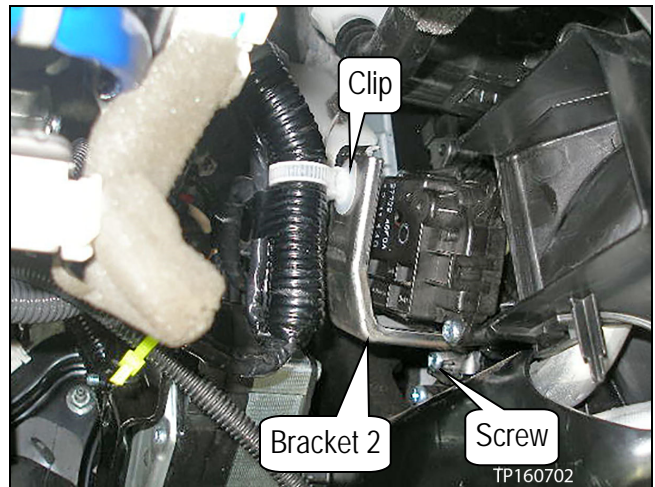

Figure 7
5. Remove bracket 2 (see Figure 7).